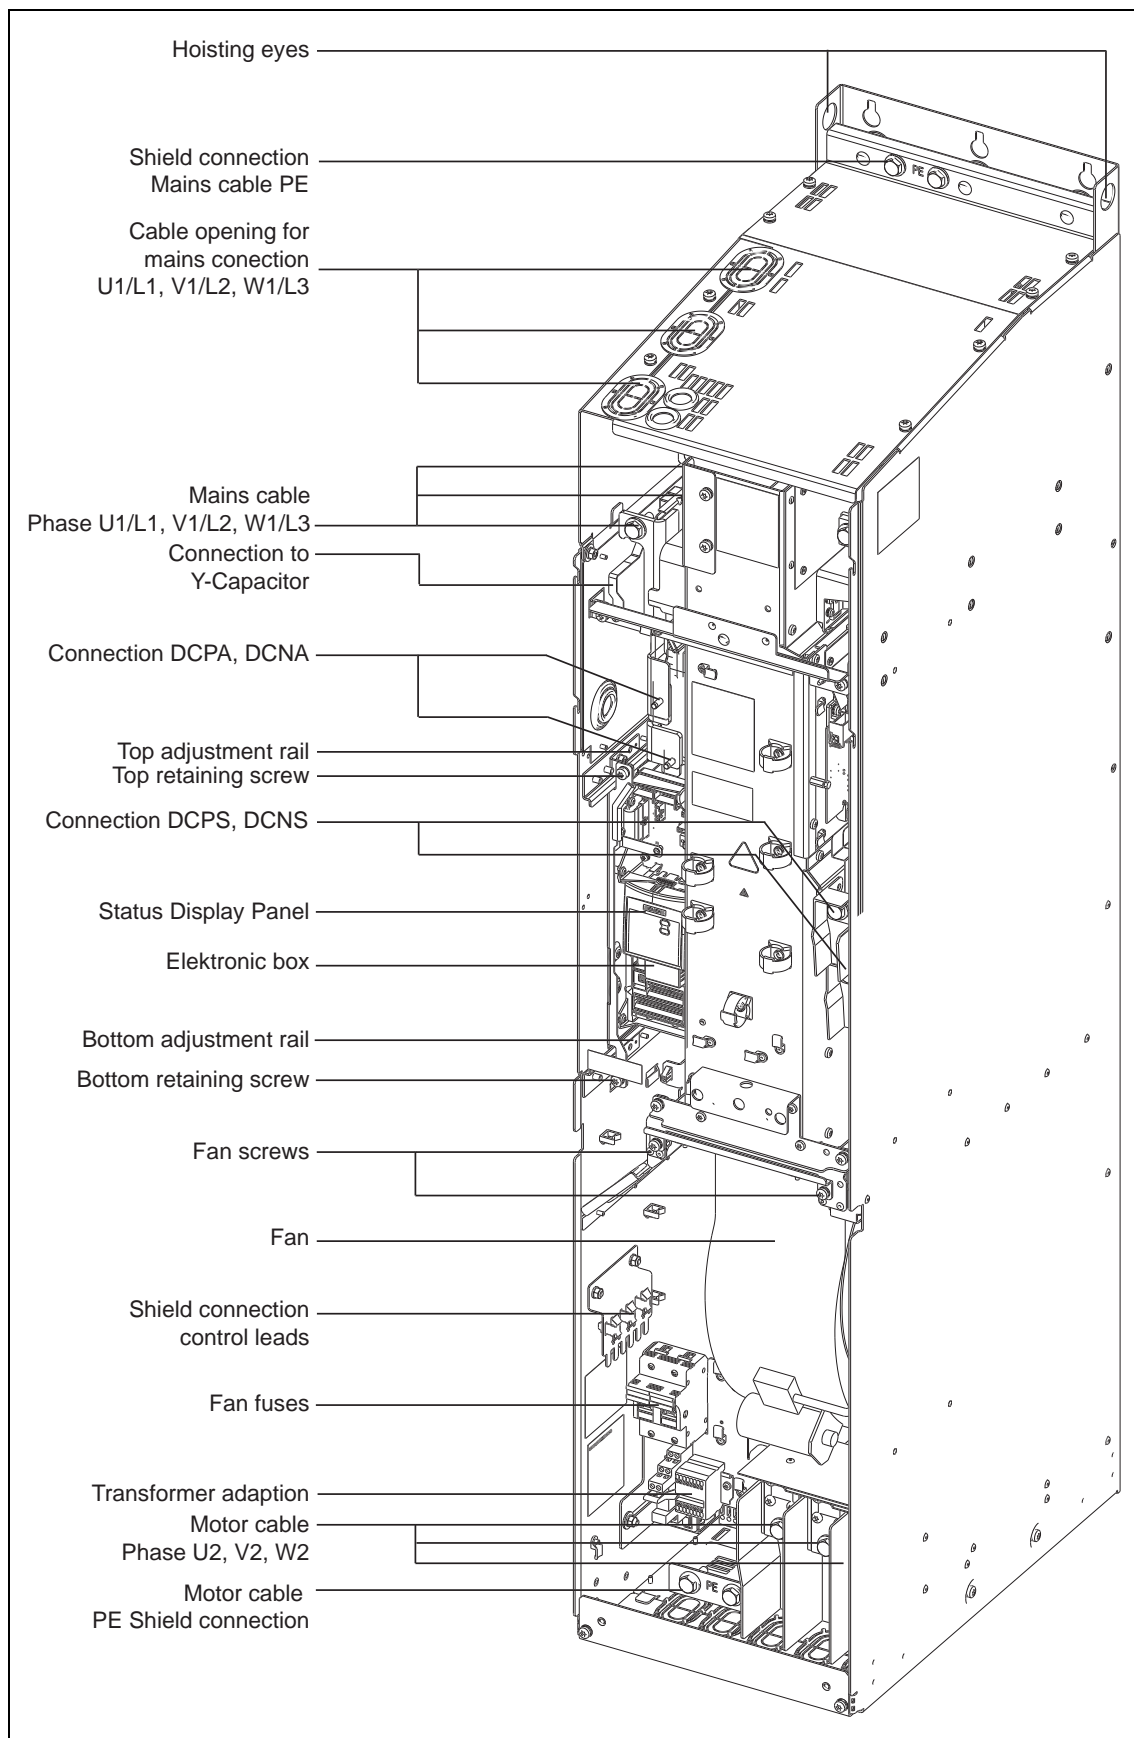

Fig. 2-7 Connection overview for Frame Size GX
- Connection overview for Frame Size GX (Fig. 2-7)